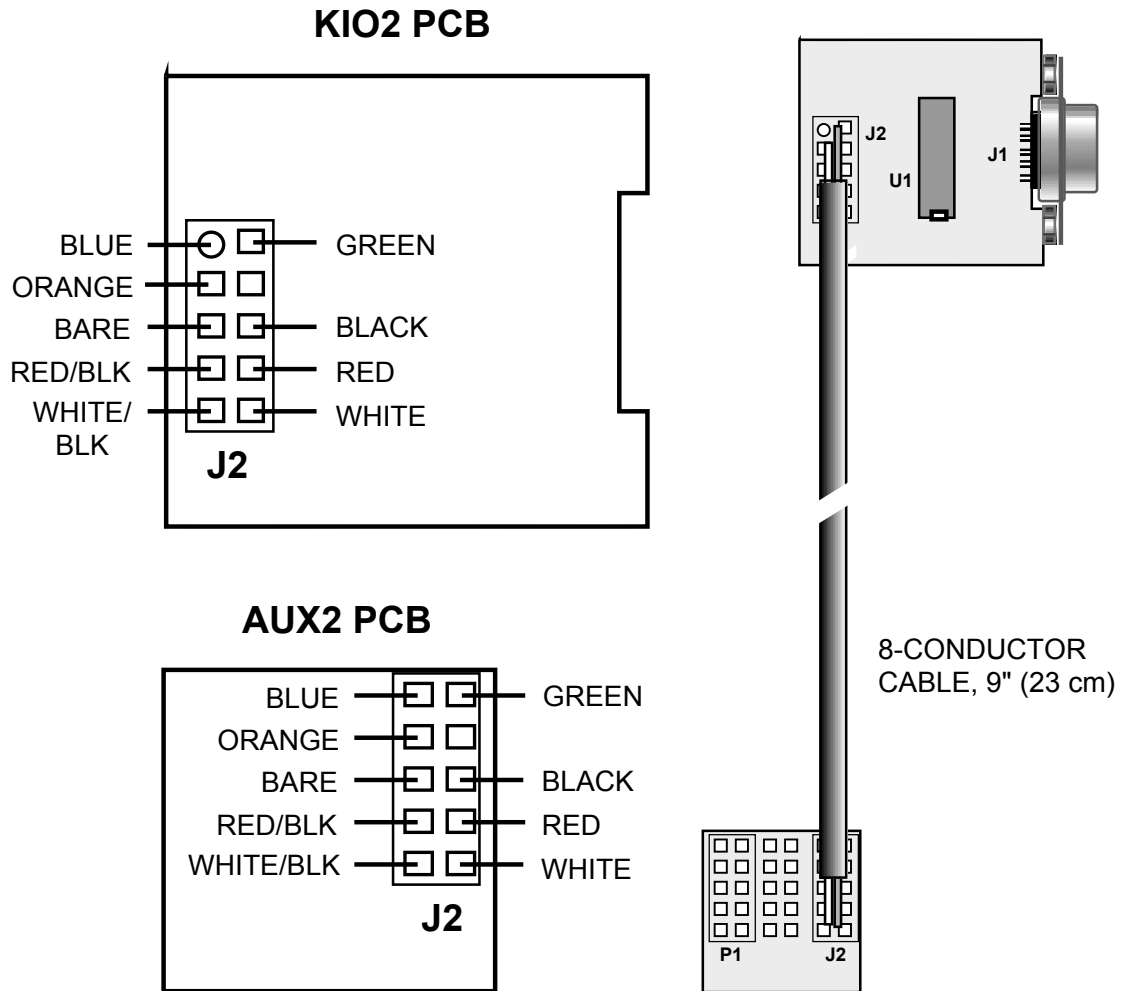

Figure 4
☐ Locate the 8-conductor shielded cable. This cable will be used to connect the KIO2 board to the AUX2 board as shown in Figure 4. Refer to this illustration during the next several assembly steps.
- If a small vise is available, clamp the KIO2 board into it in the orientation shown in Figure 4. Otherwise you can lay the board on your work bench. **Be careful not to damage crystal X1 or other components when clamping the board into a vise.**
- Using long-nose pliers, insert the wires of one end of the cable into the holes of J2 on the top side of the KIO2 board (Figure 4). Insert the wires in this order: BLUE (pin 1--**round** pad), GREEN (2), ORANGE (3), BARE (5), BLACK (6), RED/BLACK (7), RED (8), WHITE/BLACK (9), WHITE (10). Be sure to match the wire colors to their associated pads as shown. Note that the dual-row connectors have their pins numbered left to right and top to bottom, which is different from IC pin numbering.
- Clamp the AUX2 PC board into a vise or place it on the work bench, using the exact orientation shown in Figure 4. Connector P1 should be at left, and the pads for J2 should be at right. A connector will not be used at J2. As before, the wires will be soldered into position here.
- Insert the wires of the free end of the cable into the holes of J2 on the AUX2 board (Figure 4). Insert the wires in the same order as you did on the KIO2 board: BLUE (pin 1), GREEN (2), ORANGE (3), BARE (5), BLACK (6), RED/BLACK (7), RED (8), WHITE/BLACK (9), WHITE (10).